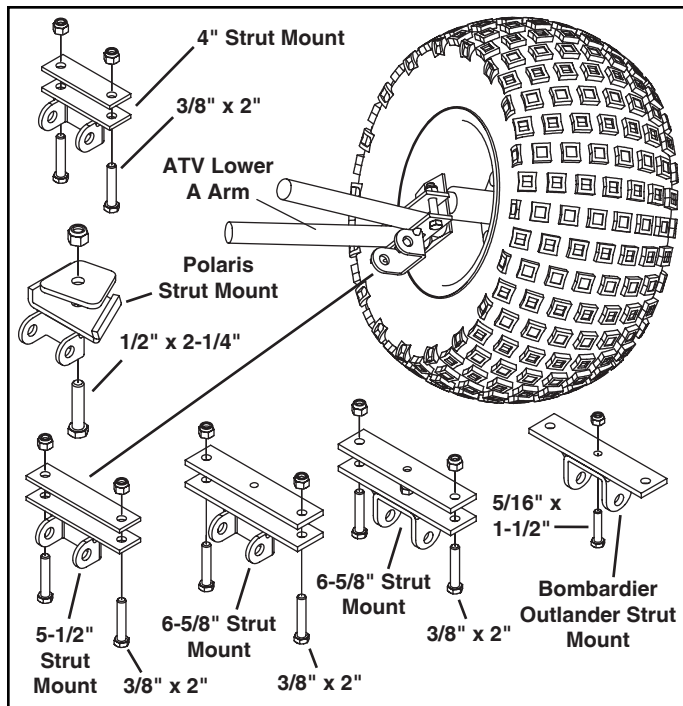

FIGURE 6
1. Remove any CV boot guard or stick guard from the front lower A arms of the ATV. Select the correct strut mount assembly shown in figure 6 for your ATV. If your ATV is not listed in figure 6, start with the 5-1/2" strut mount assembly. If you use the 4", 5-1/2" or 6-5/8" strut mount assemblies, attach with the strut mount on the bottom of the A arm and the bolts on the outside of the A arm. **Do not tighten bolts at this time.**